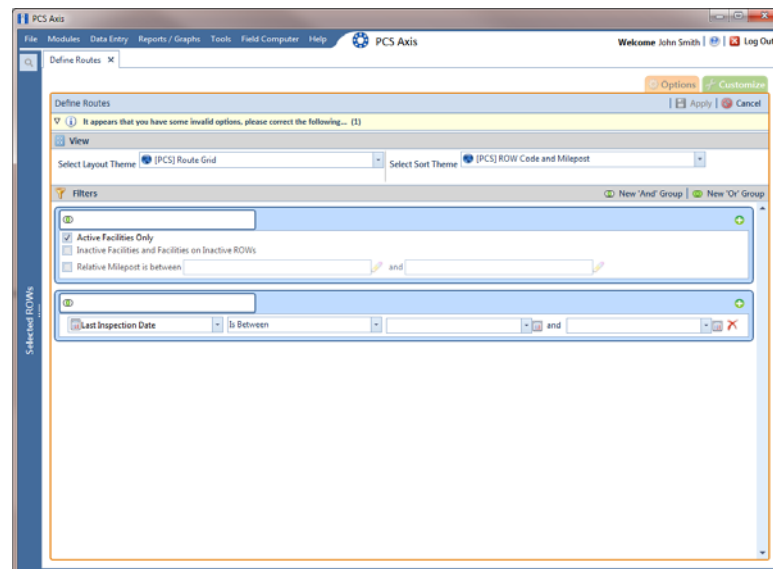

Figure 8-4. New 'And' Filter Group
- 7** If you want to add a new AND filter group, complete the following steps. With an AND filter group, PCS Axis includes a subset of records that meet *all* filter conditions defined for the filter group. Records are filtered in the grid and in the route (Figure 8-4, page 355).